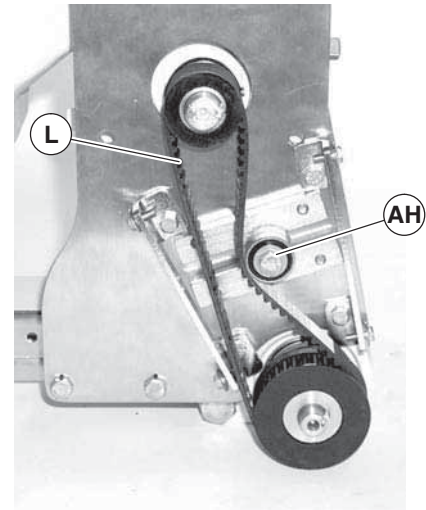

Figure 25
2. Loosen tensioner (Figure 25, item AH).